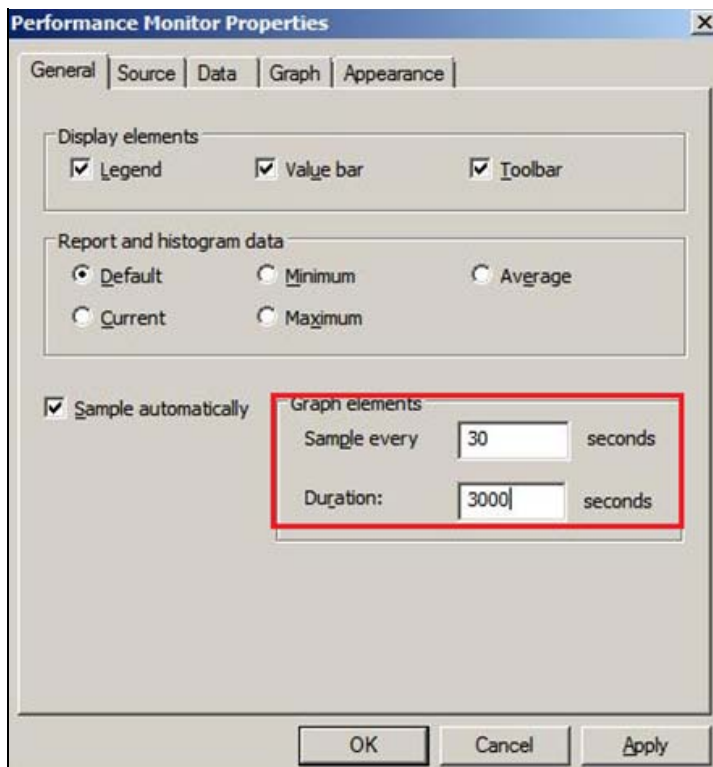

FIGURE 2: CHART DISPLAY PROPERTIES > GENERAL
- Choose the proper values for the **Sample Interval**, **Graph Duration**, and **Vertical Scale** properties etc. to fit your testing needs (Figures 2 and 2a below).